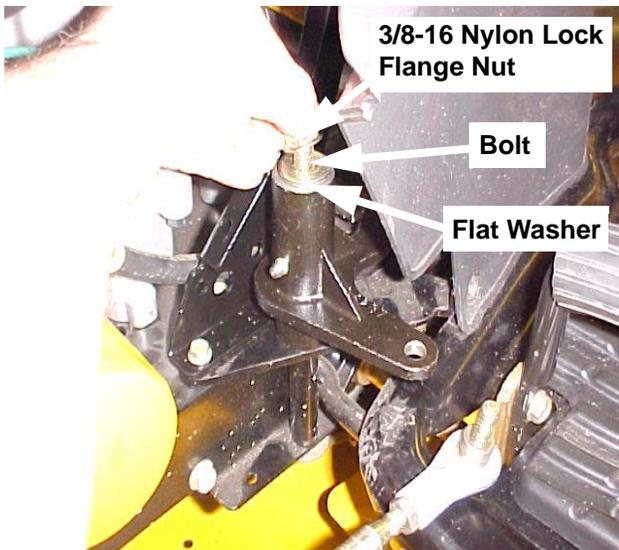

FIGURE 18
30. Install the flat washer (Ref.#4 Figure 14) over the bolt then one of the 3/8-16 nylon lock flange nuts (Ref.# 5 Figure 14). See Figure 18.